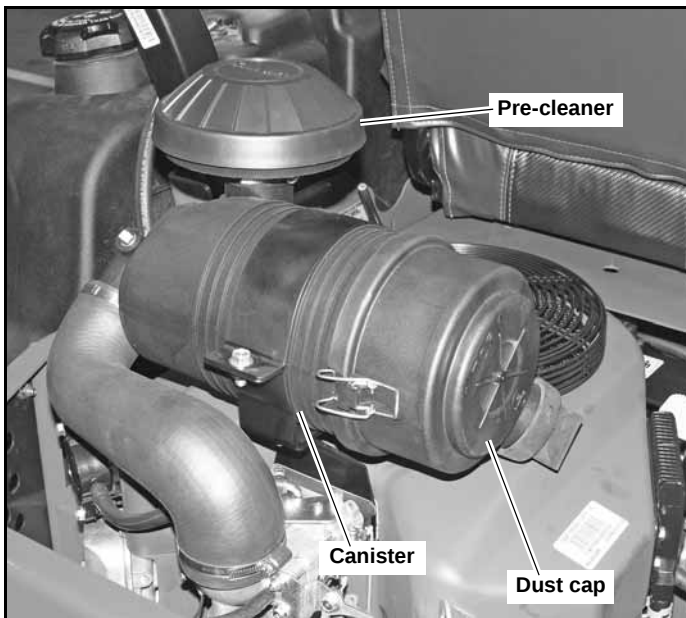

Figure 4-5
A specially designed dry filter is standard equipment on these mowers and supplies clean combustion air to the engine. Figure 4-5.
3. Reinstall the dust cap. Make sure it seals all the way around the air cleaner body, then tighten the clamps. Figure 4-5